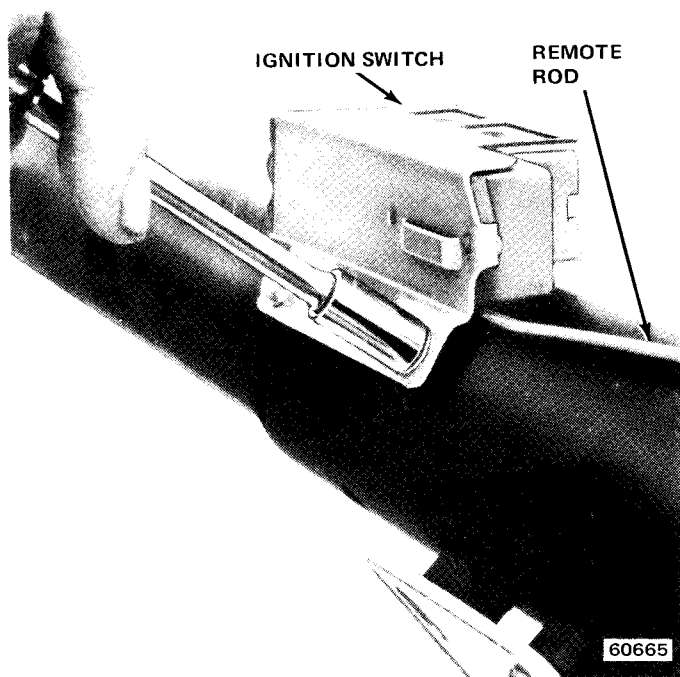

Fig. 11-11 Removing-Installing Ignition Switch
(14) Remove ignition switch from jacket (fig. 11-11).